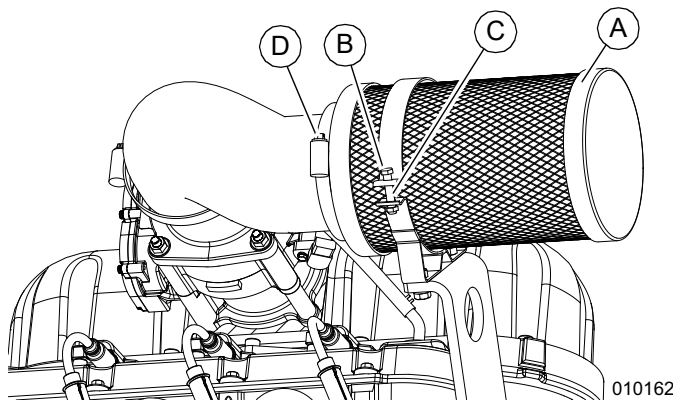

Figure 5-13. Air Cleaner Cover and Filter Element
1. See Figure 5-13. Remove nut (B) and bolt (C) from air filter clamp, and loosen elbow clamp (D) to release air cleaner.